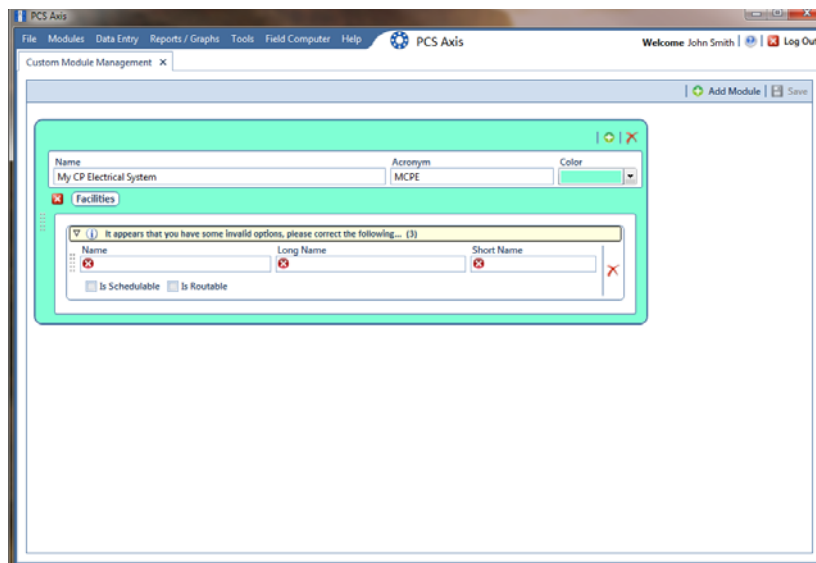

Figure 3-80. Custom Module Management
- 3 To set *Name*, *Acronym*, and *Color* properties for the user defined module, follow these steps (Figure 3-80):